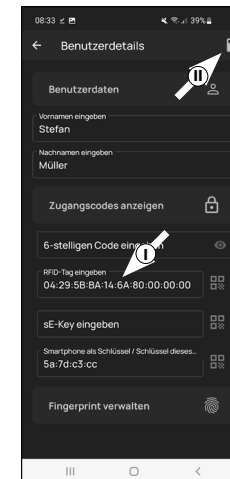

Fig. 7
- 7 This takes you back to the user details window. In the "Enter RFID tag" field you now see that the transponder has been stored (I) (Fig. 7). Tap the "Save" symbol in the top right-hand corner (II) (Fig. 7).